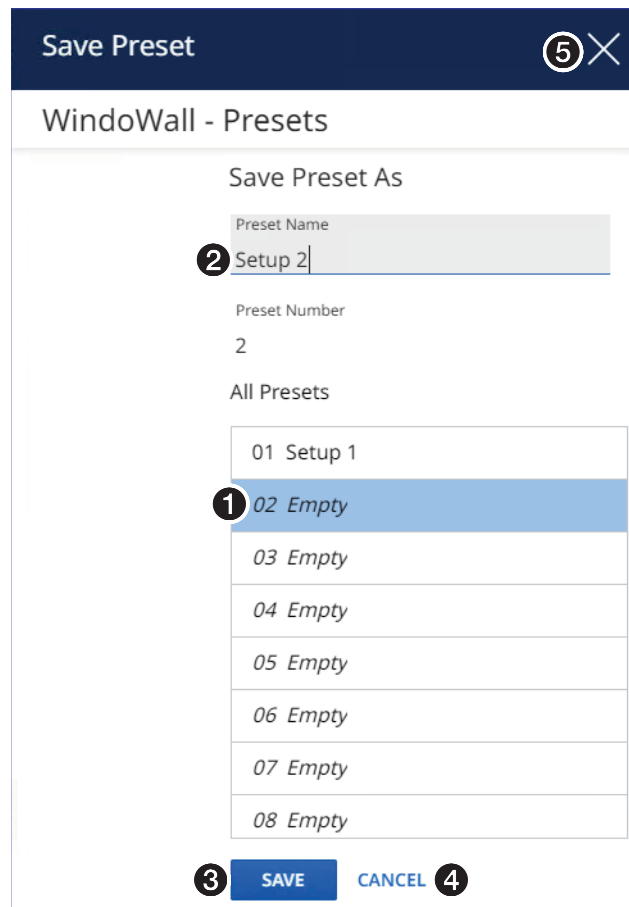

Figure 68. Saving a Preset
7. Click **Save as Preset** (5). The Save Preset pane opens (see figure 68 on page 68).
8. Select a preset number (see figure 68, 1).
1. Click the **Menu** icon (❶, at right) > **Edit** (❷). The window returns to a display similar to **figure 68** on page 68.